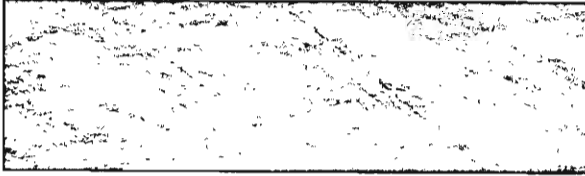

Fig. 64—Cross-Hatch Finish Pattern
2. Place the hone into a cylinder bore and expand the stones until the hone can just be turned by hand. Connect a 1/2" electric drill to the hone and drive hone at drill speed while moving hone up and down entire length of cylinder until hone begins to run free. During this operation a liberal amount of kerosene should be used as a cutting fluid to keep the stones of the hone clean. Move hone slowly up and down with rough stones but move hone up and down rapidly with the fine stones in the final operation. Final bore finish should show very fine uniform surface scratches in a cross-hatch pattern approximately 45° to 60° included angle shown in Figure 64. (Cross-hatch pattern should be clean cut but not sharp, free from torn or folded metal and imbedded particles.)